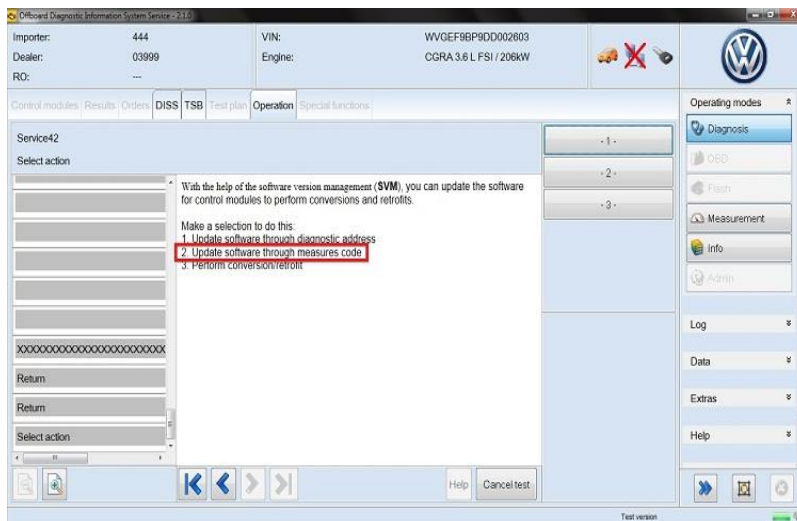

Figure 3
8. Select update software through measures code (Figure 3).